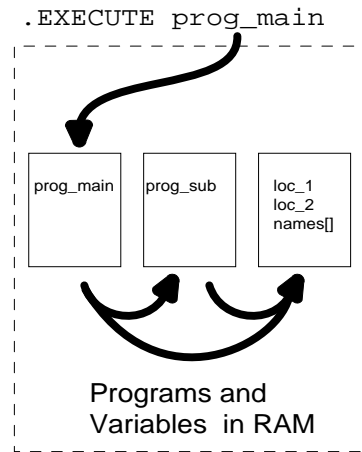

Figure 4-2. EXECUTING a V+ Program
**Figure 4-2** shows the command: